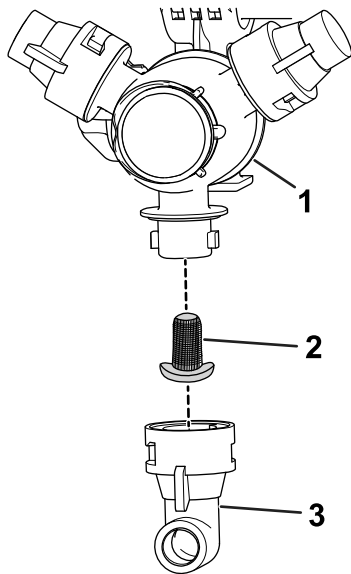

Figure 89
3. Remove the nozzle filter (Figure 89).
5. Install the nozzle filter (Figure 89).
6. Install the nozzle onto the spray turret (Figure 89).
2. Remove the nozzle from the spray turret (Figure 89).